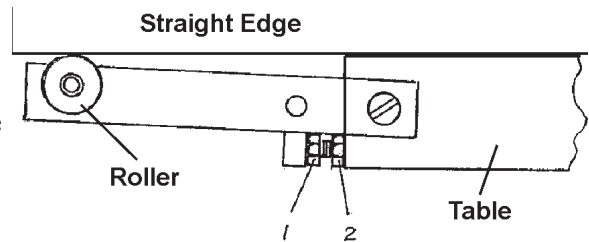

Figure 2. Table Extension Adjustment
2. Adjust each table extension so that a workpiece supported by the roller is level and in the same plane with the table. Do this by adjusting the cap screws (#1) in or out as required. See Figure 2. Check the adjustment by placing a straight edge at least 24" long through the machine, and resting on the table and both extension rollers. When the extension is properly adjusted, lock the cap screws in place with the lock nuts (#2).